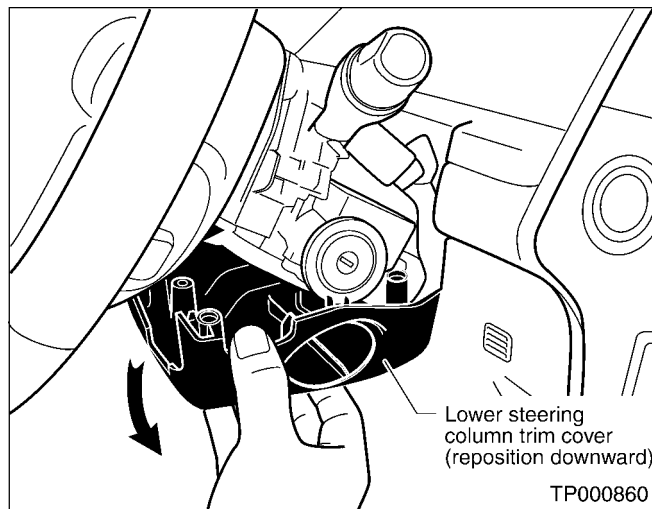

Figure 4
4. Reposition the lower steering column trim cover downward to access the ignition key lock cylinder (see Figure 4).